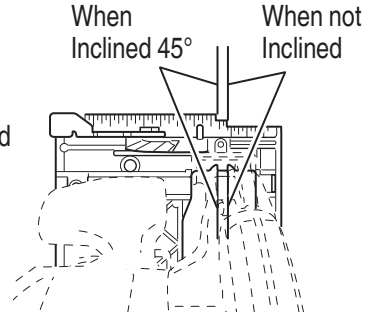
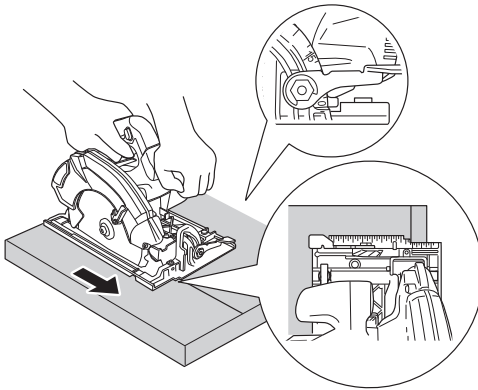
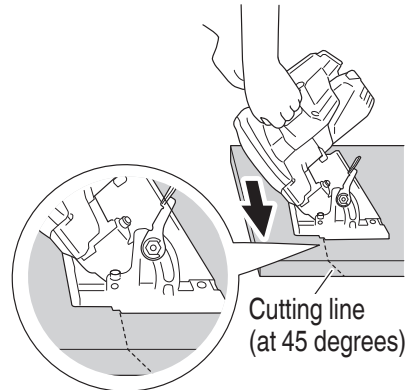

Fig. 29 <Top View>
Fig. 30
Fig. 31
- (1) Place the base on the material, then align the premarked line and the saw blade with the notch at the front of the base (**Fig. 29**).
- (2) When the base is not inclined, use the right side of the notch (**Fig. 29, Fig. 30**).
If the base is inclined (45 degrees), use the left side of the notch (**Fig. 29, Fig. 31**).
- (4) Tilt saw forward and align the notch (Fig. 29) with the pre-marked guide line.
- (5) Release the lever. When the lower guard contacts the work piece surface, it will be in proper position to open freely when cutting is commenced.
- (6) Holding the saw in position, with the blade not contacting the work piece surface, pull the trigger.
- (7) After the saw has reached full speed, gradually lower rear end of the saw until its base rests on the work surface.
- (8) Advance saw along the cutting line up to the corner.
- (9) Release trigger and allow blade to stop completely before withdrawing the blade from the work piece.
- (10) Use a jig saw or hand saw to cut the corners out clean.
- (11) When starting each new cut, repeat as above.